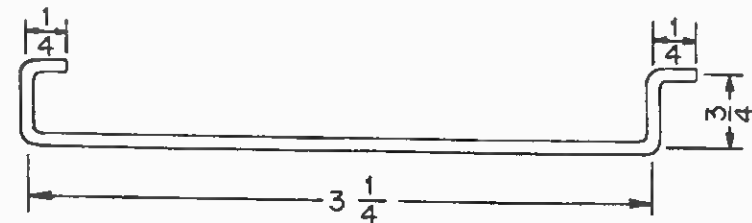

FIGURE 21
- ✓ $5\frac{1}{4}$ " heavy bare wire. Form this wire to the dimensions given in Figure 21.